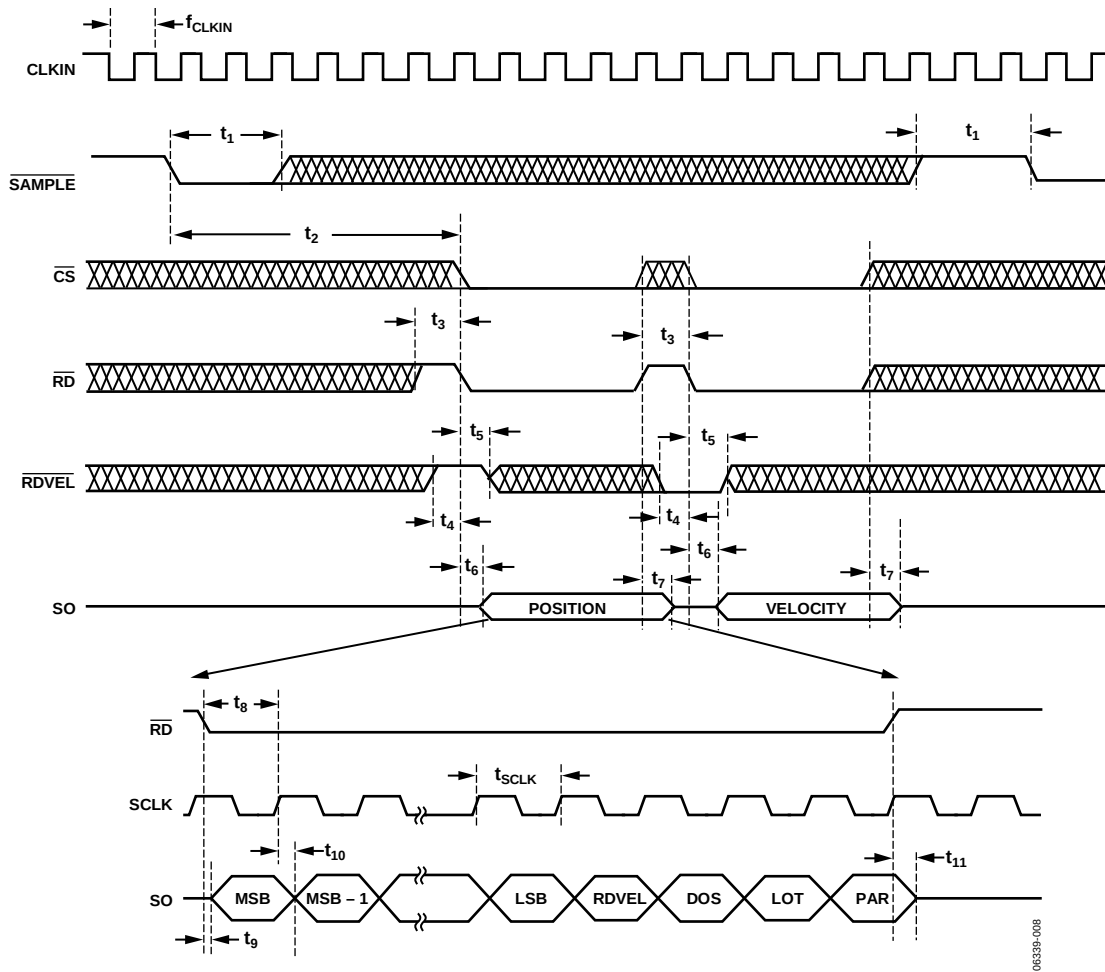

Figure 8. Serial Port Read Timing
The angular position and velocity are available on the AD2S1205 in two 12-bit registers. These registers can be accessed via a 3-wire serial interface (SO, $\overline{RD}$, and SCLK) that operates at clock rates of up to 25 MHz and is compatible with SPI and DSP interface standards. The serial interface is selected by holding the $\overline{SOE}$ pin low. Data from the position and velocity integrators are first transferred to the position and velocity registers using the $\overline{SAMPLE}$ pin. The $\overline{RDVEL}$ pin selects whether data is transferred from the position or velocity register to the output register, and the $\overline{CS}$ pin must be held low to transfer data from the selected register to the output register. Finally, the $\overline{RD}$ input is used to read the data that is clocked out of the output register and is available on the serial output pin (SO). When the serial interface is selected, DB11 is used as the serial output pin (SO), DB10 is used as the serial clock input (SCLK), and Pin DB0 to Pin DB9 are placed into the high impedance state. The timing requirements for the read cycle are described in Figure 8.
The output shift register is 16 bits wide. Data is clocked out of the device as a 16-bit word by the serial clock input (SCLK). The timing diagram for this operation is shown in Figure 8. The 16-bit word consists of 12 bits of angular data (position or velocity, depending on $\overline{RDVEL}$ input), one $\overline{RDVEL}$ status bit, and three status bits (a parity bit, a degradation of signal bit, and a loss of tracking bit). Data is clocked out MSB first from the SO pin, beginning with DB15. DB15 through DB4 correspond to the angular information. The angular position data format is unsigned binary, with all 0s corresponding to 0° and all 1s corresponding to 360° – 1 LSB. The angular velocity data format is twos complement, with the MSB representing the rotation direction. DB3 is the $\overline{RDVEL}$ status bit, with a 1 indicating position and a 0 indicating velocity. DB2 is DOS, the degradation of signal flag (refer to the Fault Detection Circuit section). Bit 1 is LOT, the loss of tracking flag (refer to the Fault Detection Circuit section). Bit 0 is PAR, the parity bit. The position and velocity data are in odd parity format, and the data readback always contains an odd number of logic highs (1s).